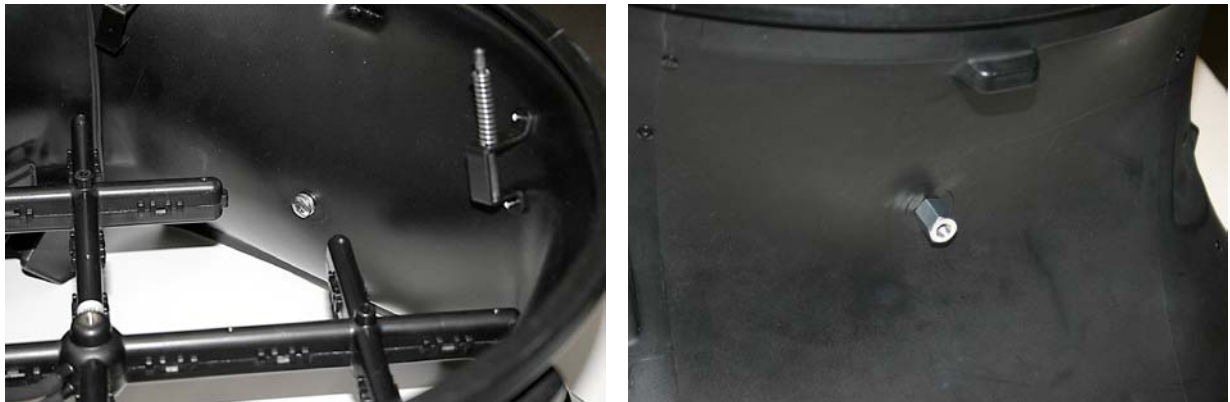

Figure 23: Remove Plug Located at Back of Base Assembly
1. Remove the plug located at the back of the base assembly and insert the Philips screw with washer into the hole from the inside of the base (see Figure 23). Place the threaded insert on the outside of the base opposite the screw and tighten with a Philips screwdriver.